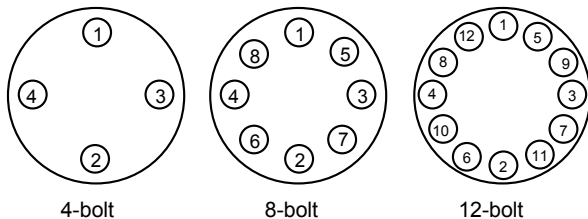

Fig. 5
3. Install bolts in both process connections. Tighten the nuts in the sequence shown in Figure 5. Check for leaks after tightening the flange bolts.